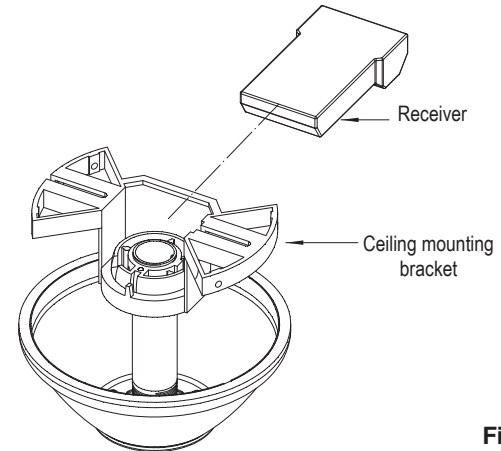

Fig. 11
**Step 1.** Insert the receiver into the ceiling mounting bracket with the flat side of the receiver facing the ceiling. (Fig. 11)